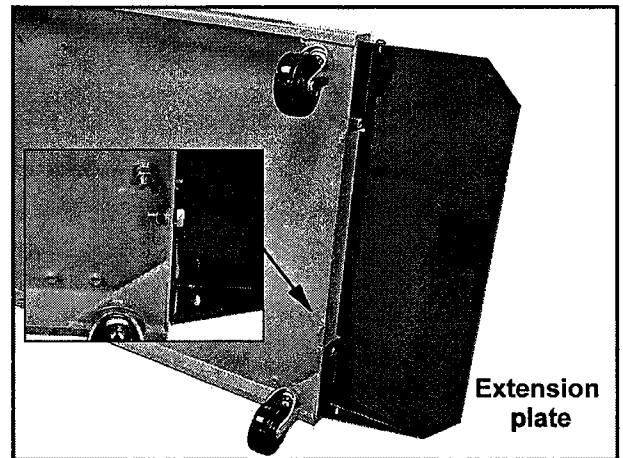

FIGURE 4
2. Mount the two extension plates to the ends of the base, each with four screws, four flat washers, four lock washers, and four hex nuts. See Figure 4.